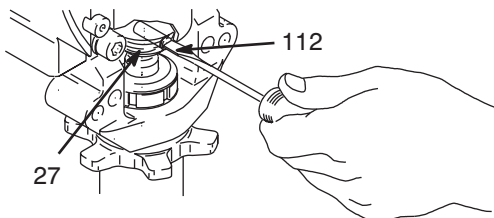

FIG. 17
5. FIG. 17. Use screwdriver: push retaining spring up and push out pin (112).
2. FIG. 17. Push pin (112) into hole. And push retaining spring (27) into groove all the way around connecting rod.